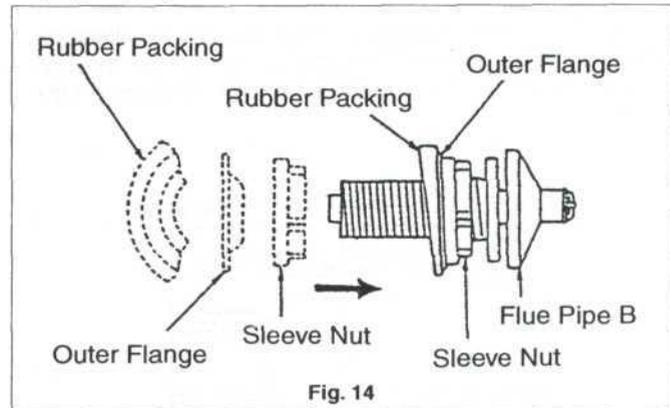

Fig. 14
1. Set the Sleeve Nut to the Flue Pipe B and turn the Sleeve Nut counterclockwise. Slide the Outer Flange and the Rubber Packing onto the Flue Pipe B. (Figure 14)